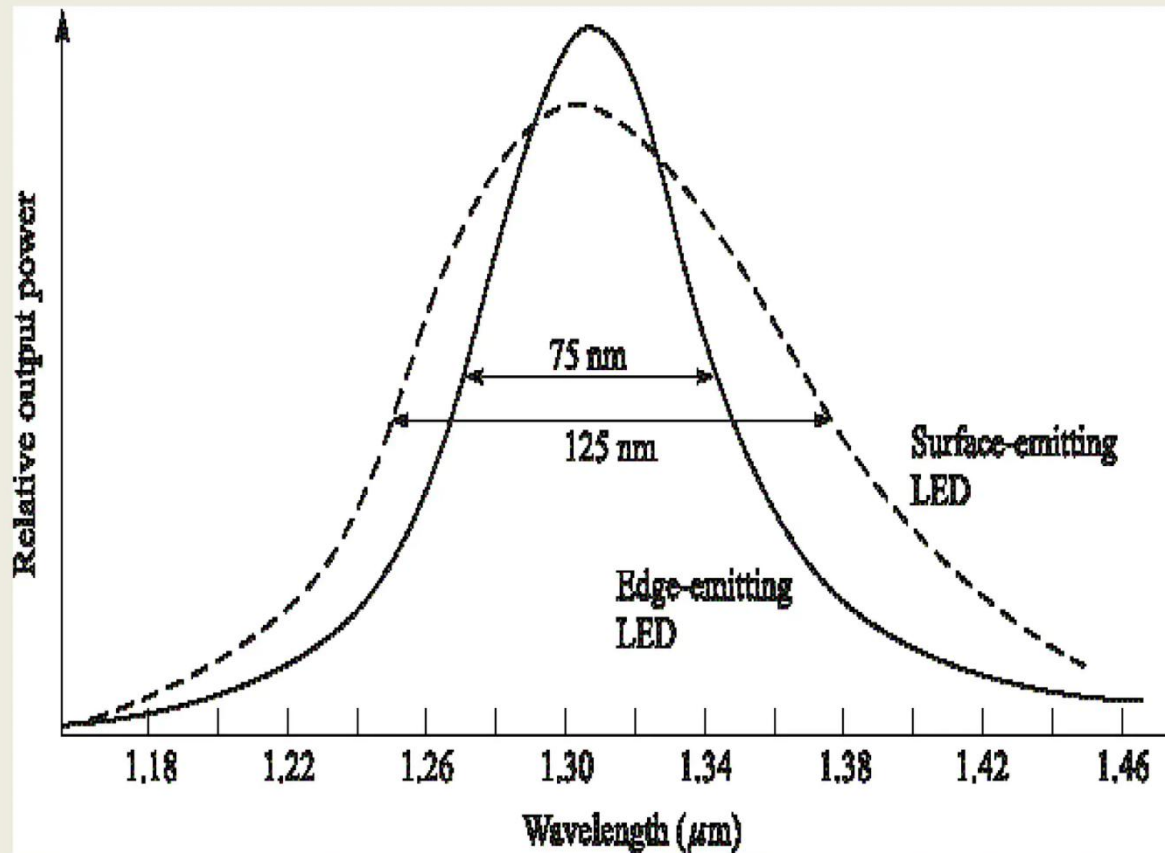

**Figure 10:** (a) surface emitting LED
**Source:** M. Sibley, "Optical Transmitters," Springer, Cham, 2021, ch. 5. [https://media.springernature.com/lw685/springer-static/image/chp%3A10.1007%2F978-3-031-45473-8\\_5/MediaObjects/486398\\_1\\_En\\_5\\_Fig10\\_HTML.png](https://media.springernature.com/lw685/springer-static/image/chp%3A10.1007%2F978-3-031-45473-8_5/MediaObjects/486398_1_En_5_Fig10_HTML.png)